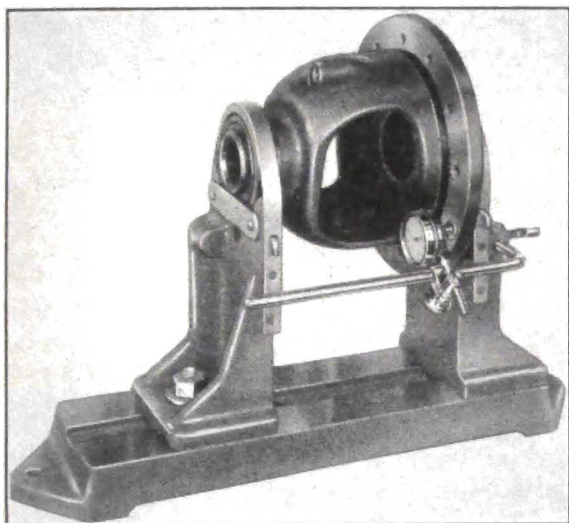

Fig. 4-12. Checking Differential Case Run-Out
4. After old ring gear is removed, face of differential case where back face of new ring gear contacts should be checked for being true. Use fixture U-4-B or V-blocks if tool is not available. See Fig. 4-12. If not true within .002", the case should be set up in